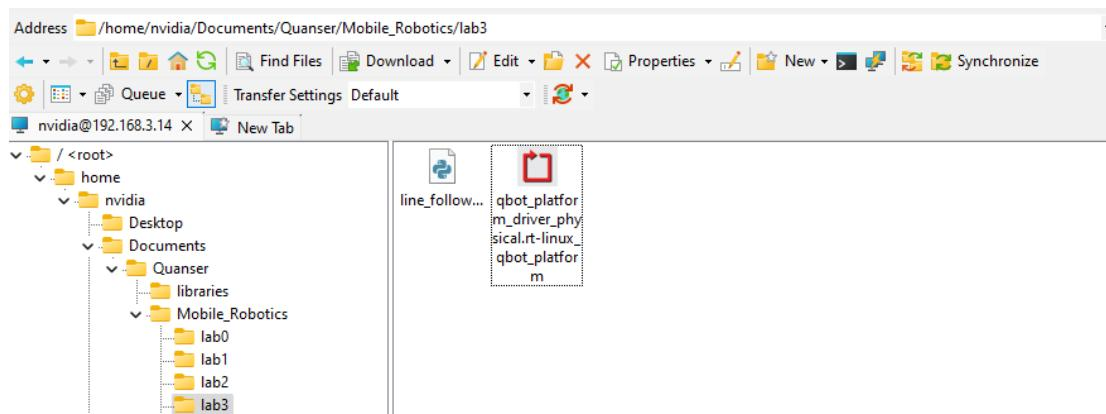

Figure 1. Correct directory for python script
- a. navigate to "`~\Documents\Quanser\Mobile_Robotics`" and create a new folder "`Lab3`", as shown in Figure 1. Then copy the updated `line_following.py` to "`Lab3`". In addition, copy the `qbot_platform_driver_physical.rt-linux_qbot_platform` over. (You can just drag the files over).